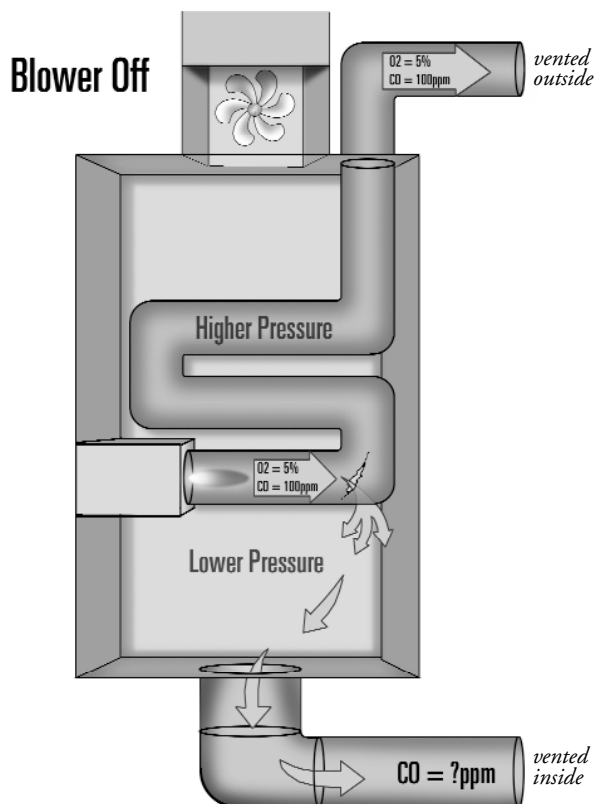

figure 5
- Before the blower starts the pressure is higher on the combustion side of exchange (see figure 5)